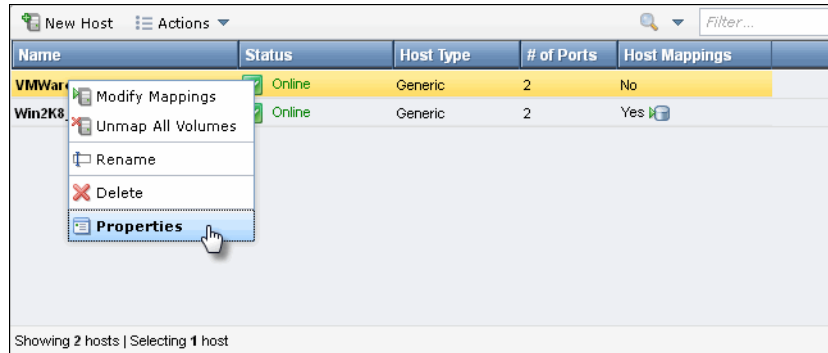

Figure 5-51 Example ESX FC host
1. Right-click your VMware ESX Fibre Channel host in the All Hosts view (as shown in Figure 5-51) and select **Properties**.